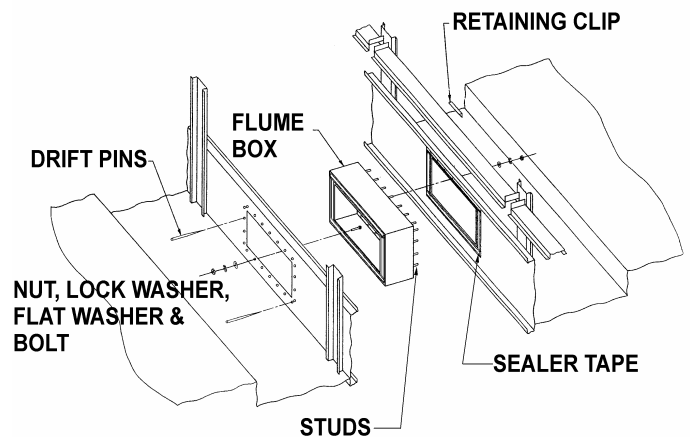

Figure 6 - Equalizer Flume Assembly, 4,9 - 5,3 and 7,3 m wide models
2. Mating flanges which will make contact with others should be cleaned to remove dirt, grease and moisture. Apply a layer of sealer tape on one side panel centered over the flume box holes as shown in Figure 6. Remove paper backing strip from the sealer tape.
6. Align the bolt holes in the equalizer flume and equalizer opening with drift pins while drawing the second basin section against the first as shown in Figure 6.
9. Remove the 6 mm bolts which hold the drip channel retaining clips to the end panel. Place the drip channel assembly over the adjoining pan section flanges. Turn around the retaining clips and reinstall using the same hardware. (See Figures 6 and 7.)